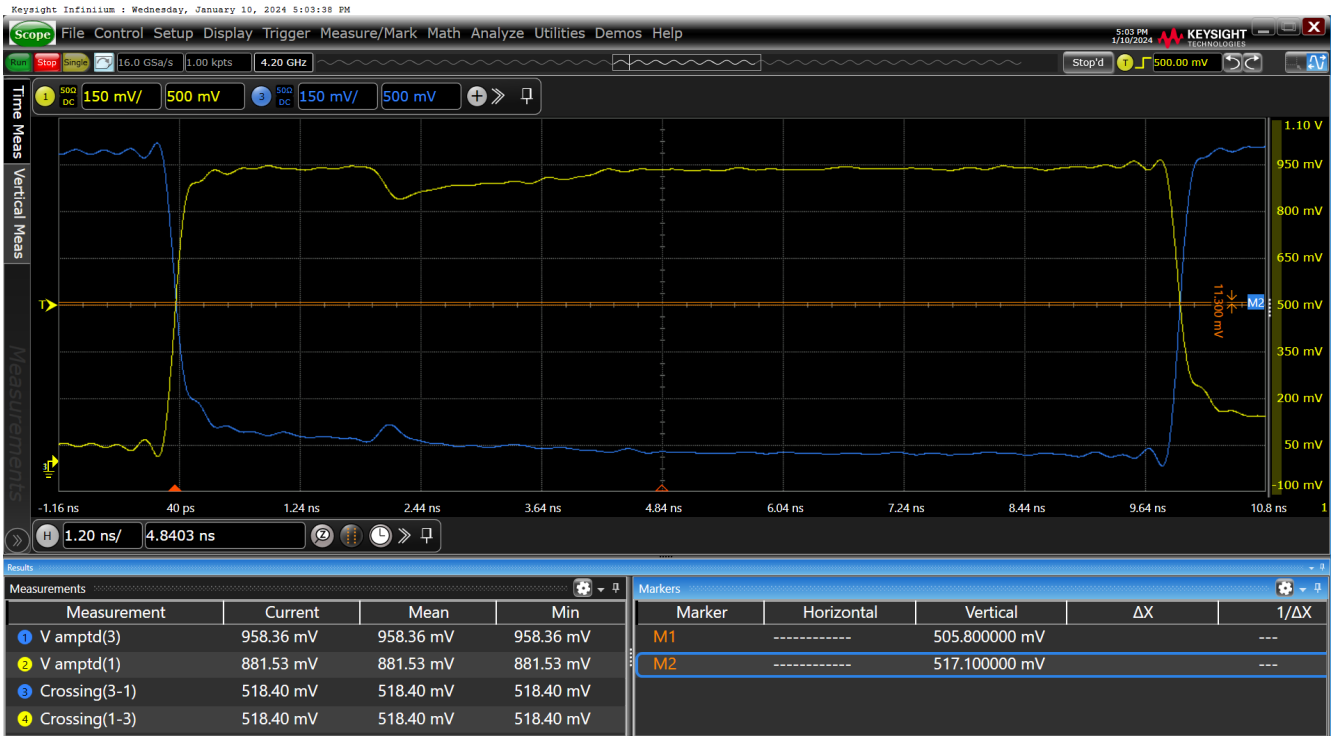

Figure 12. Vcross–HCSL Internal Termination SWING = 800mV on OUT11
- Figure 12. Vcross–HCSL Internal Termination SWING = 800mV on OUT1110